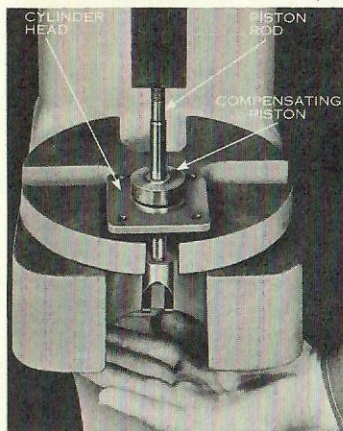

FIG. 23-1
6. Press piston rod out of compensating piston, Fig. 23-1.